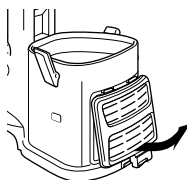

Fig. 22
- 1 Remove the filter cover from the front of the vacuum by pulling up on the tab and pulling the cover away from the vacuum. **(Fig. 22)**